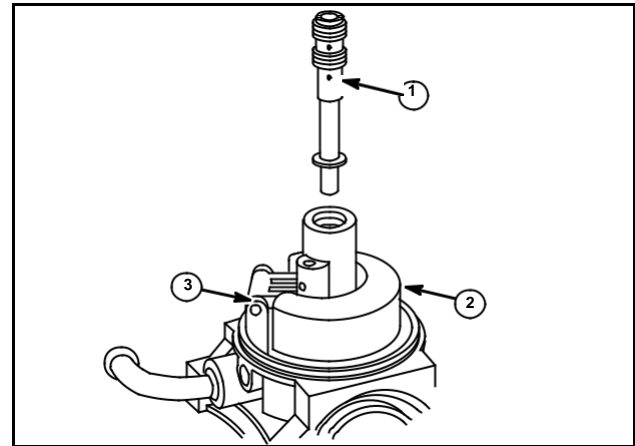

Fig. 116
1. Install emulsion tube (1) using Tool #19280, Car-buretor Screwdriver, until emulsion tube seats, Fig. 116. Float (2), hinge pin (3), Fig. 116.